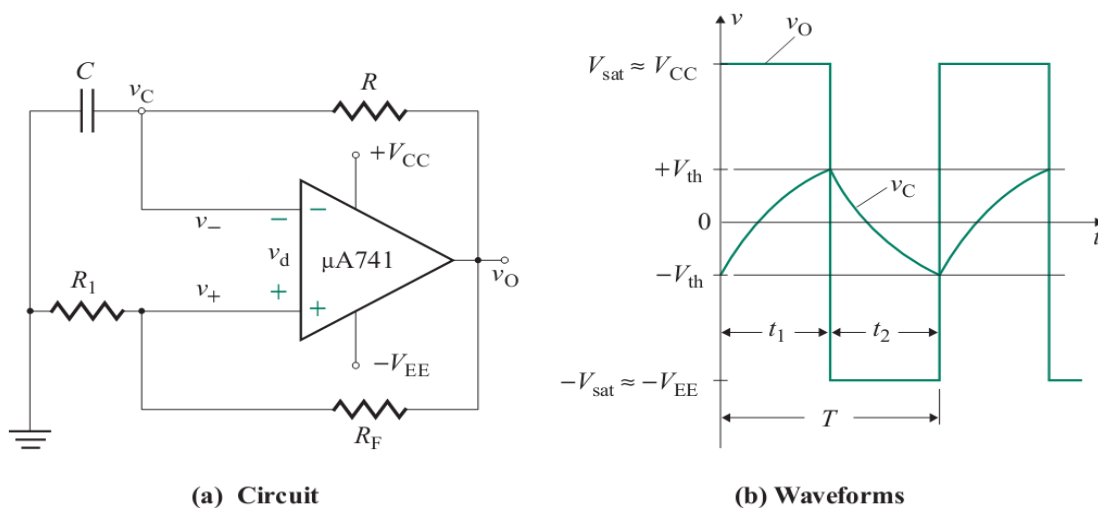

Figure 10
1. Construct the circuit of Fig. 10 (a) using op-amp.